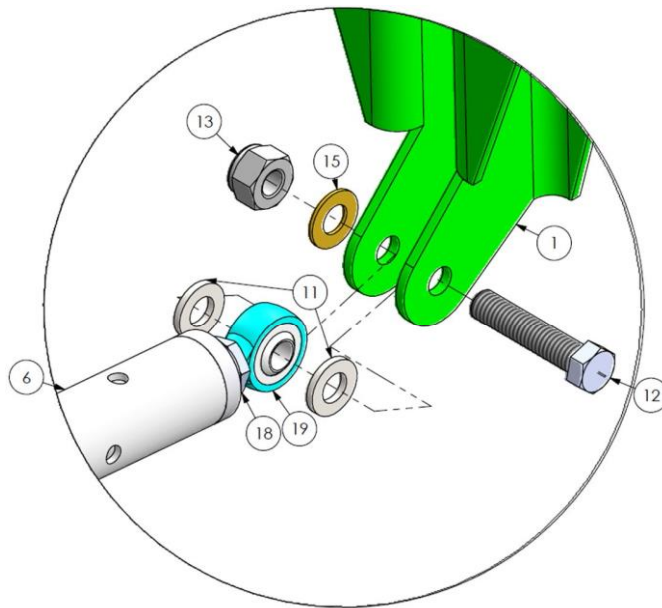

Figure 28: Eyebolt assembly, Detail F
- Step 11. To replace the eyebolt seen in Figure 28, remove the AN4 locknut (13) and bolt (12). Replace the *noncompliant* eyebolt with either a *type 1* or *type 2* eyebolt.
- Step 12. Once the eyebolt has been replaced, reconstruct the eyebolt assembly. Refer to Figure 28 for component layout.